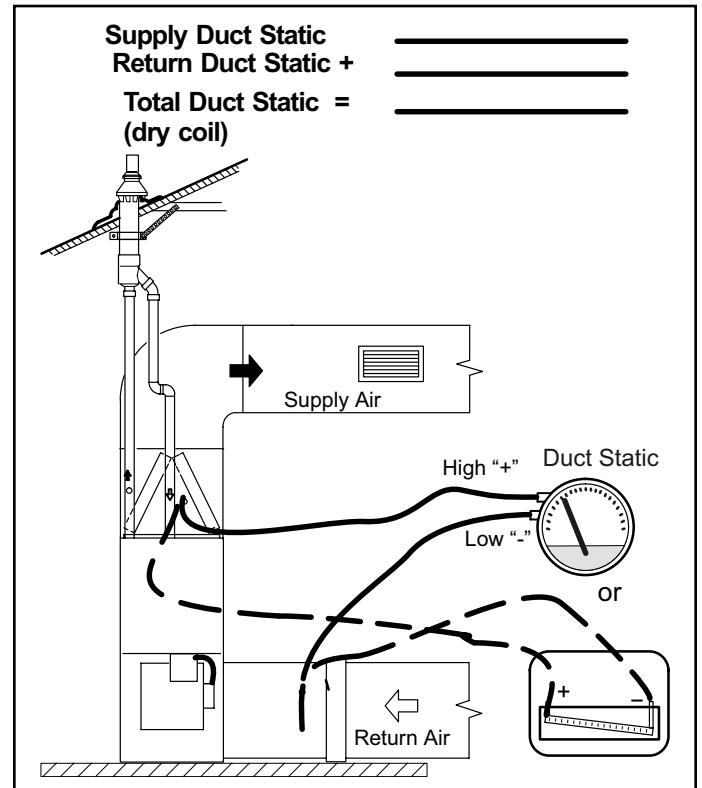

Figure 48. External Static Pressure
1. Tap locations shown in Figure 48.